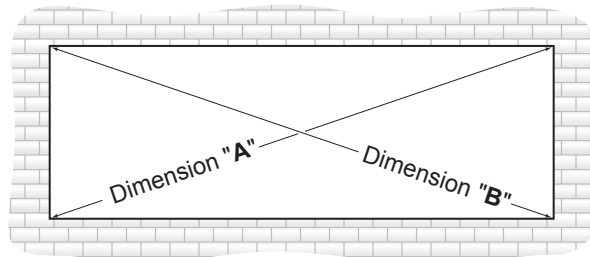

Fig. 23.1 Dimension "A" = "B"
- A. Make sure the opening is square and plumb. Measure each diagonal of the opening. **SEE Fig. 23.1.**